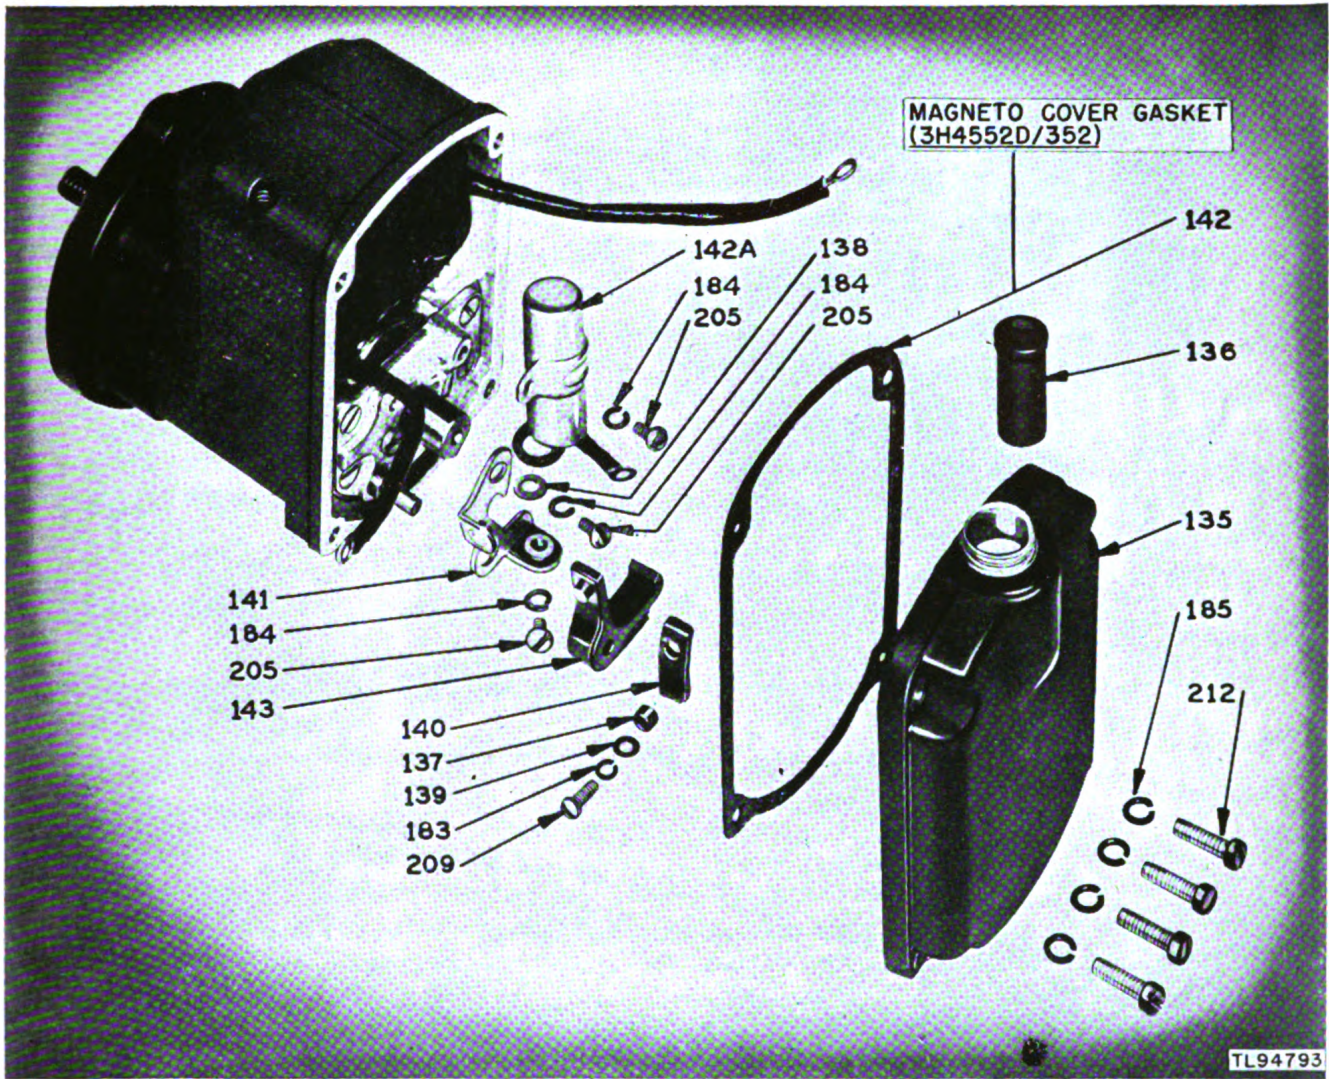
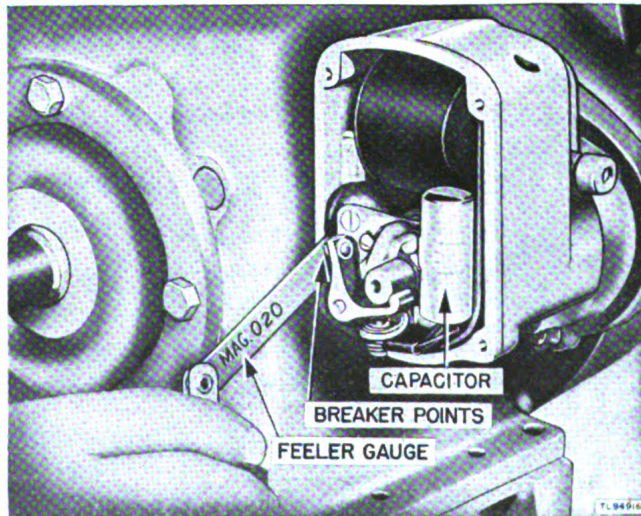

Figure 41. Magneto breaker-point assembly.
Figure 42. Checking magneto-point clearance.
- 37 37 37 **MAGNETOS (POINTS).** Determine whether they are in good condition and securely mounted. Remove the four screws (fig. 41(212)) that hold the magneto-breaker cover (fig. 41(135)) to the magneto. Be careful not to damage the gasket (fig. 41(142)) when removing the cover. If only slightly pitted, dress the points with #00 sandpaper or a fine-grit bone. If the points are badly pitted, replace both points. Clean the magneto-breaker cover inside and outside with dry-cleaning solvent (SD) before replacing it.
- 37 37 37 *Adjust.* Check the breaker-point gap with a feeler gauge. (See fig. 42.) The correct gap is 0.015 inch. Be sure that the points are open to their widest gap when checking. If the breaker gap is not satisfactory, loosen the fixed contact-locking screw (fig. 41(205)) and adjust the gap by turning the eccentric adjusting screw. Be sure to retighten the locking screw when a satisfactory adjustment has been made. Recheck gap after retightening screw.